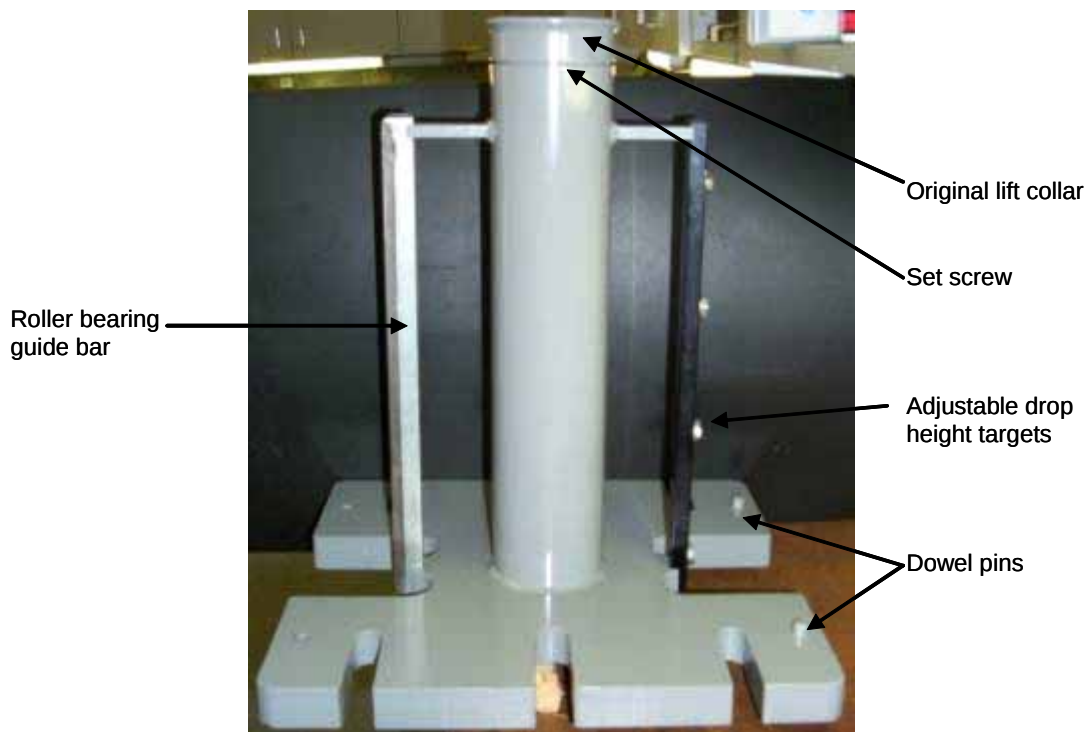

Figure 36. Roller guides mounted to drop plate.
3. Place four adjustable drop height targets (activators) in a vertical rail on the drop weight. These targets, which are adjustable to various loads, can be selected to determine weight-height target locations (figure 36).